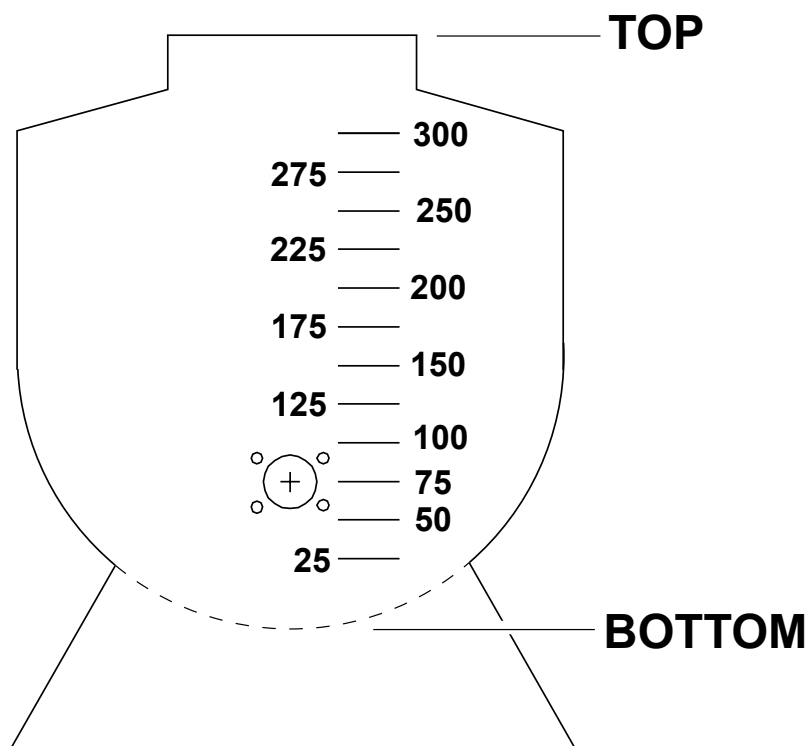

FIGURE 2
1. Discharge hoses: Discharge hoses are available in 50 ft. (15 m) and 100 ft. (30 m) lengths up to a total of 150 ft. (45 m). Hose of a greater length may adversely affect the discharge distance, and the discharge time of the HydroSeeder®. All connections are camlock quick operating fittings, including the connection to the end of the discharge piping. A nozzle is connected to the end of the hose next to the remote discharge valve. Once the hose is connected, the HydroSeeder® is ready to operate. Flow through the hose and the nozzle is controlled by the remote discharge valve. When using this valve, the recirculation valve on the HydroSeeder® MUST BE OPEN to allow flow at times when the remote valve is closed. See Figure 2 on page 9.
The base HydroSeeder® is equipped with three (3) independently operated ball valves to control slurry flow (see Fig. 2). The first valve is the recirculation valve. An open recirculation valve allows flow back into the tank. The second valve is the pump discharge valve. An open pump discharge valve allows slurry to flow through the discharge hose. The third valve, located at the end of the discharge hose is the remote valve. An open remote valve allows discharge of the slurry onto the area being covered.